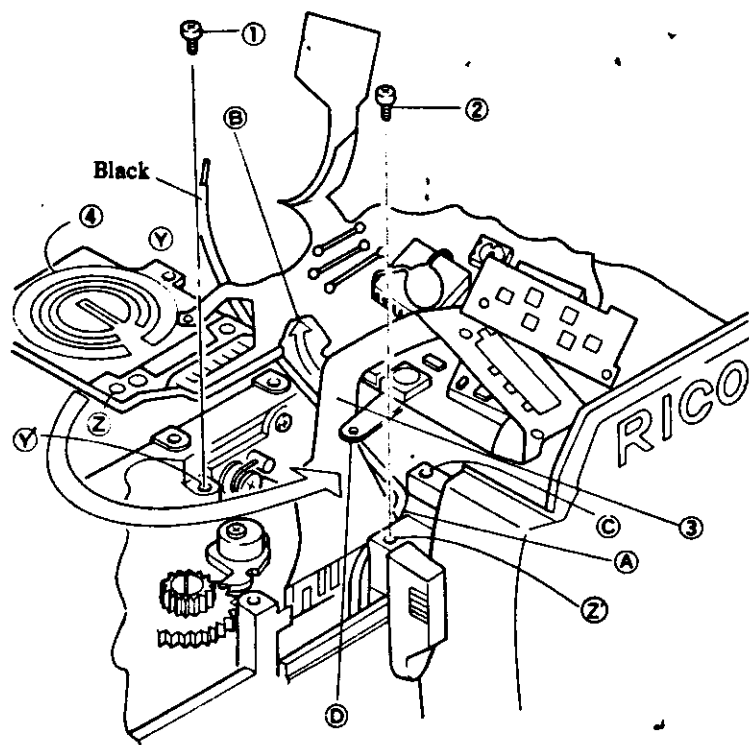

Fig. 31
SHUTTER RESISTOR PLATE SIDE (see Fig. 31)
- 6) Fix **BLACK LEAD WIRE** between the body and the shutter as shown A portion in Fig. 31 and set it along the Prism cover.